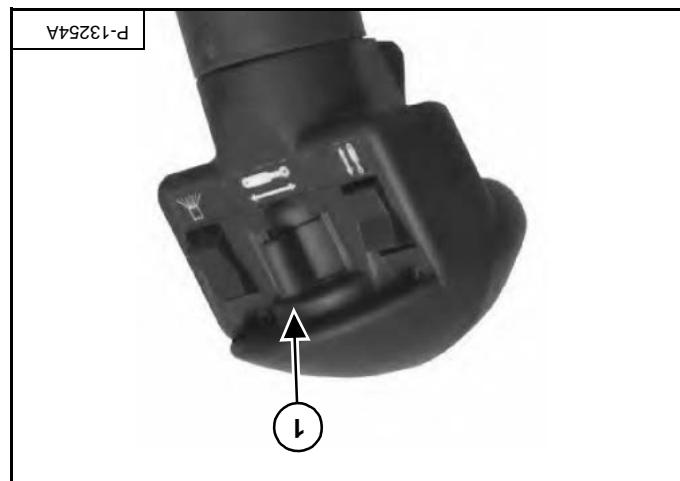

Figure OI-44
Pressing the switch (item 1) [Figure OI-44] to the right will side-shift the trencher to the left.
Pressing the switch (item 1) [Figure OI-44] to the left will side-shift the trencher to the right.